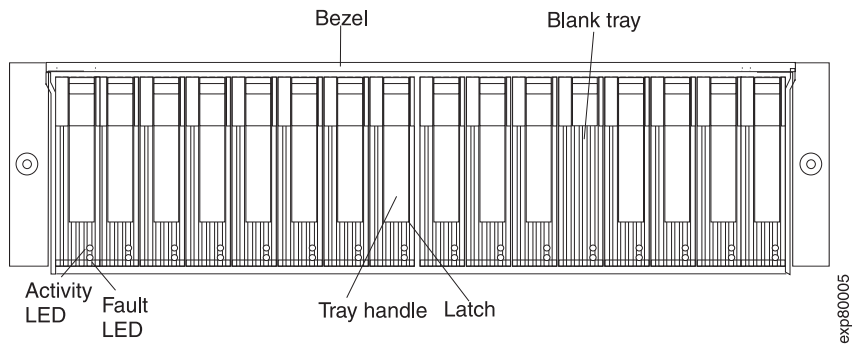

Figure 109. Hot-swap E-DDM LEDs
2. Check for Fault LEDs shown in Figure 109 on page 152. If any amber LEDs are lit, see “Solving problems” on page 181.